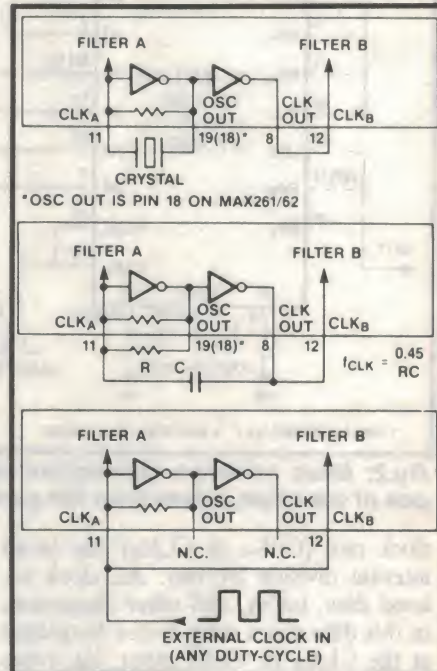

Fig.4: Clock circuit options for the MAX260/1/2. Either crystal or RC internal oscillators can be used, or alternatively an external oscillator.
tal, resistor-capacitor (RC) network, or an external clock generator as shown in Fig.4. If an RC oscillator is used, the clock rate, f_{CLK} , nominally equals $0.45/RC$.